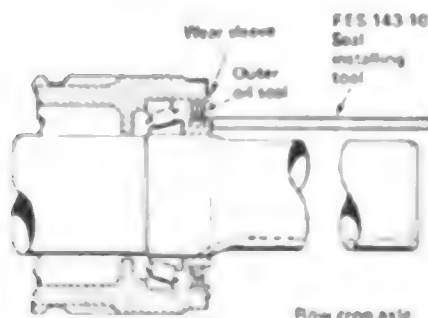

Fig. 148—On Row Crop models, outer oil seal can be installed after axle shaft is installed in housing, using seal installing tool FES 143 10.
**NOTE:** On Row Crop models, outer oil seal can be installed after axle is installed in housing. See Fig. 148.